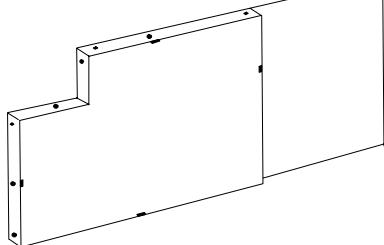

Fig. 12.
5. For ease of servicing remove the rear metal cover by desoldering (Fig.12)